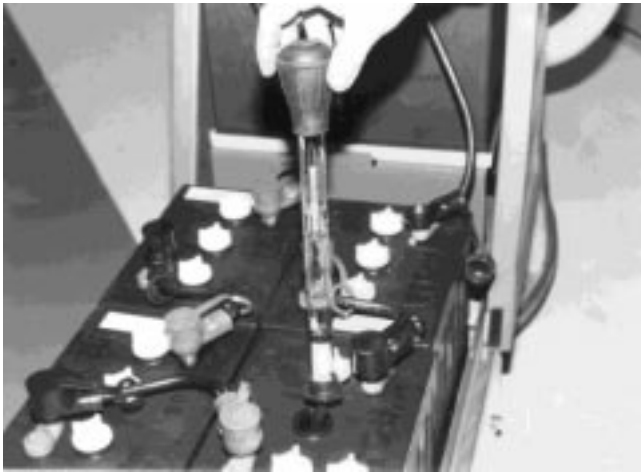

FIG. 14.
2. Check the specific gravity in each battery cell with a hydrometer. All cells should show a reading of at least 1.260 (*Figure 14*).